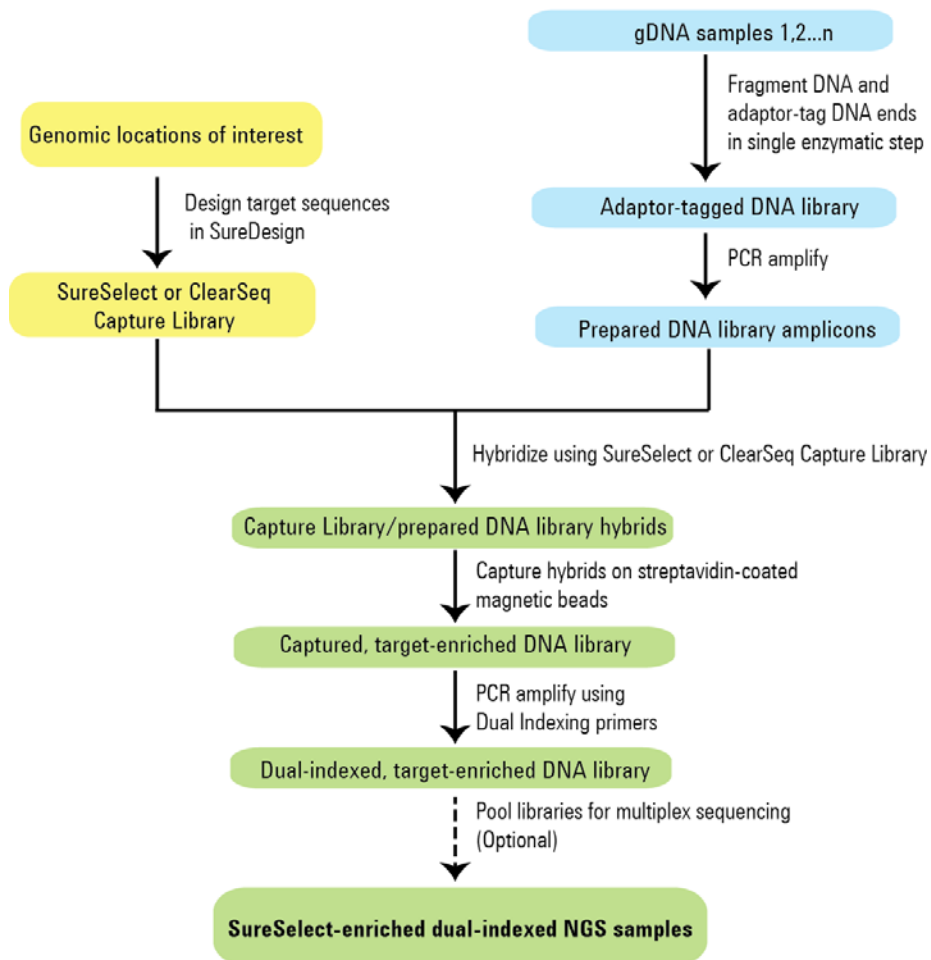

Figure 2 Overall sequencing sample preparation workflow.
Figure 2 summarizes the SureSelect^{QXT} target enrichment workflow for samples to be sequenced using the Illumina paired-read sequencing platform. For each sample to be sequenced, individual library preparations, hybridizations, and captures are performed. The samples are then tagged by PCR with an index sequence. Depending on the target size of the SureSelect capture, up to 96 samples can be pooled and sequenced in a single lane using the dual index tags that are provided with SureSelect^{QXT} Library Prep kits.
- At the hybridization step (see Figure 2), you can add a different SureSelect or ClearSeq Capture Library to each row of the plate. Plan your experiment such that each prepared DNA library plate position corresponds to the appropriate Capture Library.
- For post-capture amplification (see Figure 2), different SureSelect or ClearSeq Capture Libraries can require different amplification cycle numbers, based on sizes of the captured targets. It is most efficient to process similar-sized Capture Libraries on the same plate. See Table 53 on page 101 to determine which Capture Libraries may be amplified on the same plate.
- Post-capture dual index assignments for the DNA samples can affect sample placement decisions at the beginning of the workflow. For example, all samples on the same row of the DNA sample plate must be assigned to the same P5 indexing primer during sample indexing after hybridization to the Capture Library (see Figure 2). It is important to review and understand the guidelines for assignment of dual indexing primers on page 96 while planning sample placement for the run to ensure that the indexing design is compatible with the initial DNA sample placement.